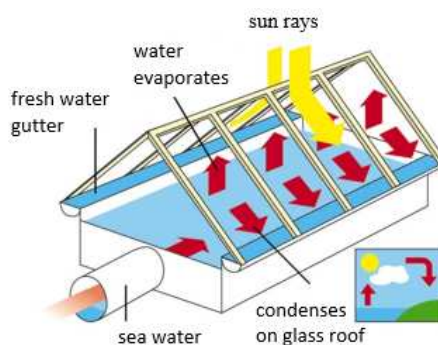

Fig. 2: Desalination of sea water
Desalination of sea water takes place in areas where fresh water is rare even though they are close to the sea. The principle is shown in Fig.2. The sun heats sea water which starts to evaporate. Finally, fresh water *condenses* at the glass roof and flows into collecting tanks.
1. Look at Fig. 1 and Fig. 2 and explain how we can get salt and fresh water from sea water.